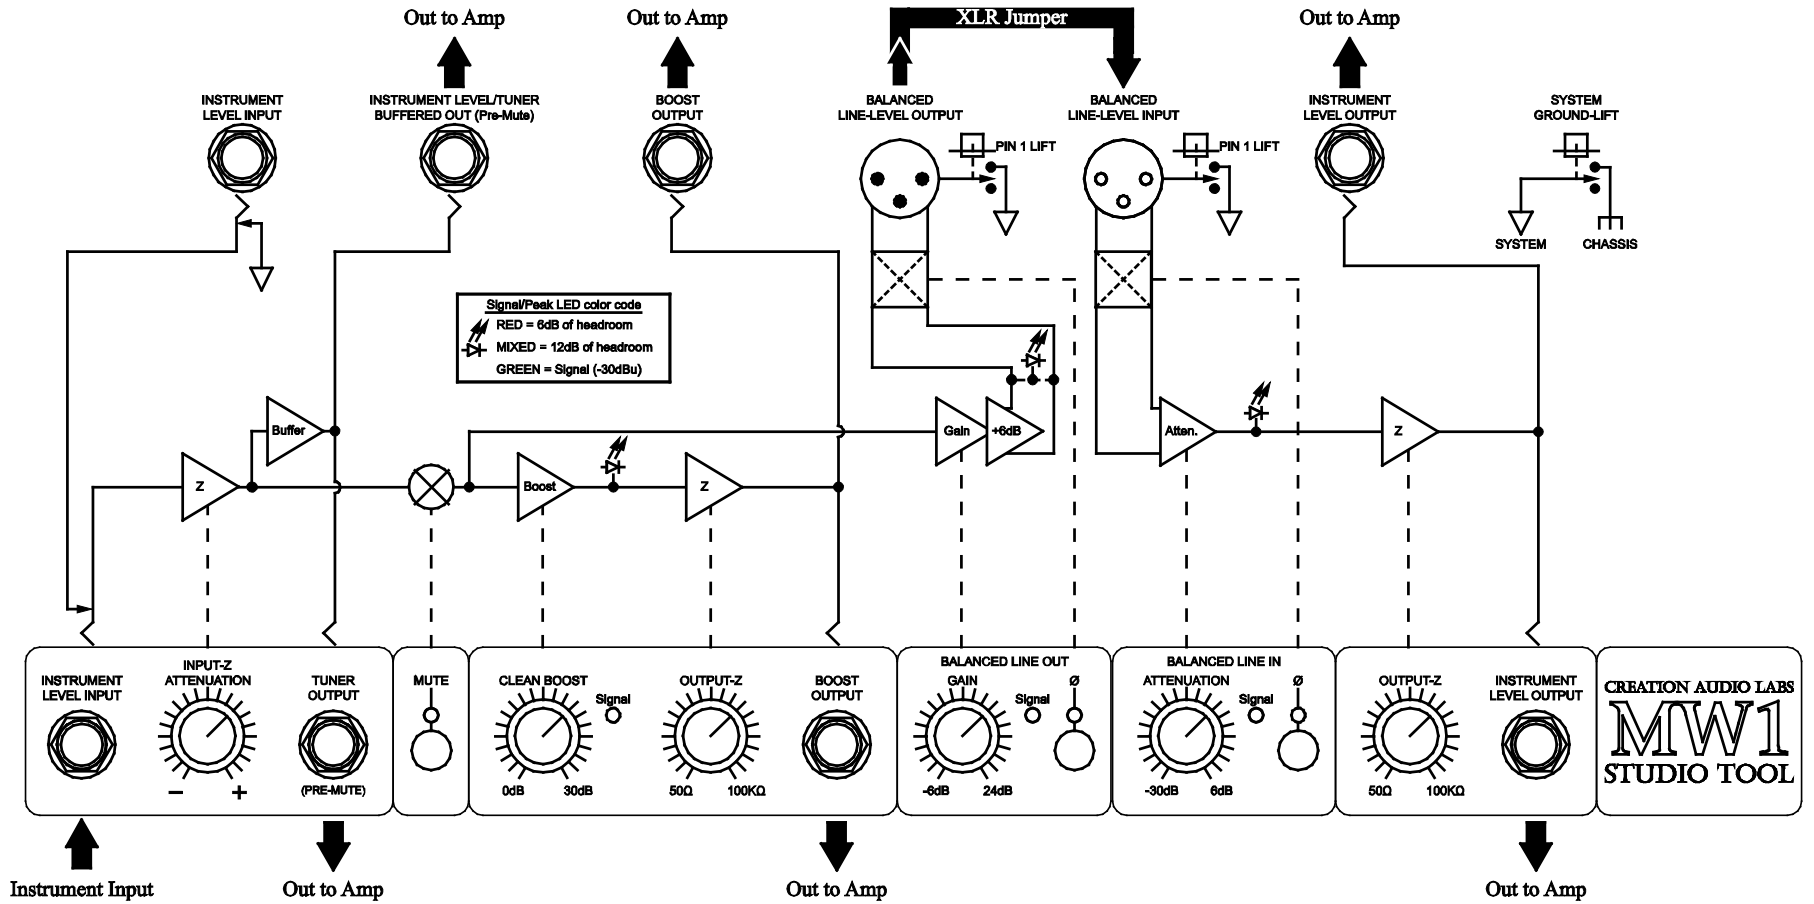

FIG. 8
- Signal splitting to multiple amps. (Fig. 8)